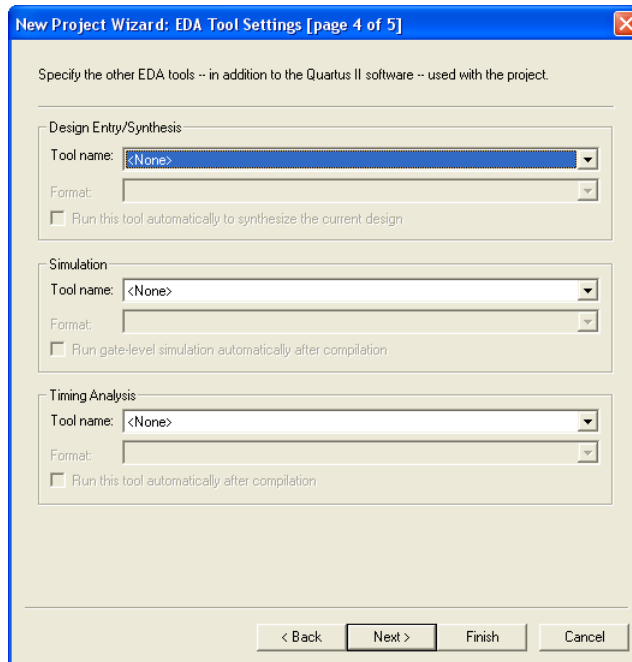

Figure 8. Other EDA tools can be specified.
- We have to specify the type of device in which the designed circuit will be implemented. Choose the Cyclone-series device family for your DE-series board. We can let Quartus II software select a specific device in the family, or we can choose the device explicitly. We will take the latter approach. From the list of available devices, choose the appropriate device name for your DE-series board. A list of devices names on DE-series boards can be found in Table 1. Press **Next**, which opens the window in Figure 8.